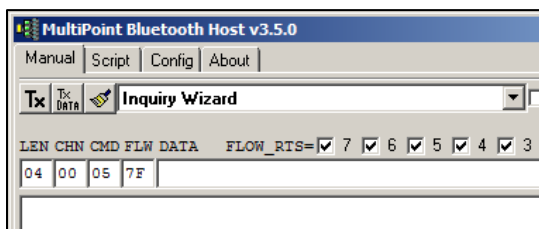

Figure 47: Select Inquiry Wizard
1. From the drop-down menu, select **Inquiry Wizard** (Figure 47).